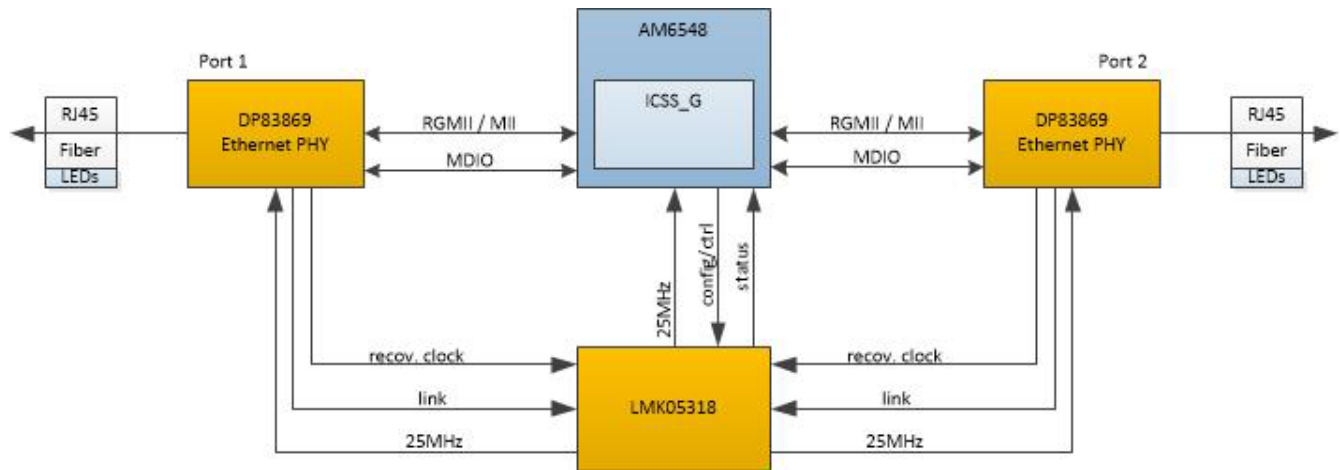

Figure 3. Frequency Synchronization Using the LMK05318
- Figure 3 shows a simpler clocking scheme with the LMK05318 providing the reference clocks for the Gigabit Ethernet link between the different nodes, the AM6548 system on chip as the processing unit, and the DP83869HM with high-immunity gigabit Ethernet PHY acting as the Ethernet PHY.